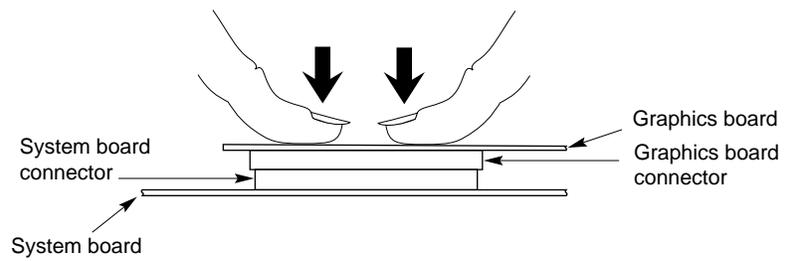

Figure 2-15 Seating the Connectors
- Place your fingers or thumbs on the board above where the connectors are located, and press firmly until the two connectors fit snugly. The connectors must be touching along the entire shared surface. See Figure 2-15. If the board is not seated all the way, the screws will not tighten correctly.